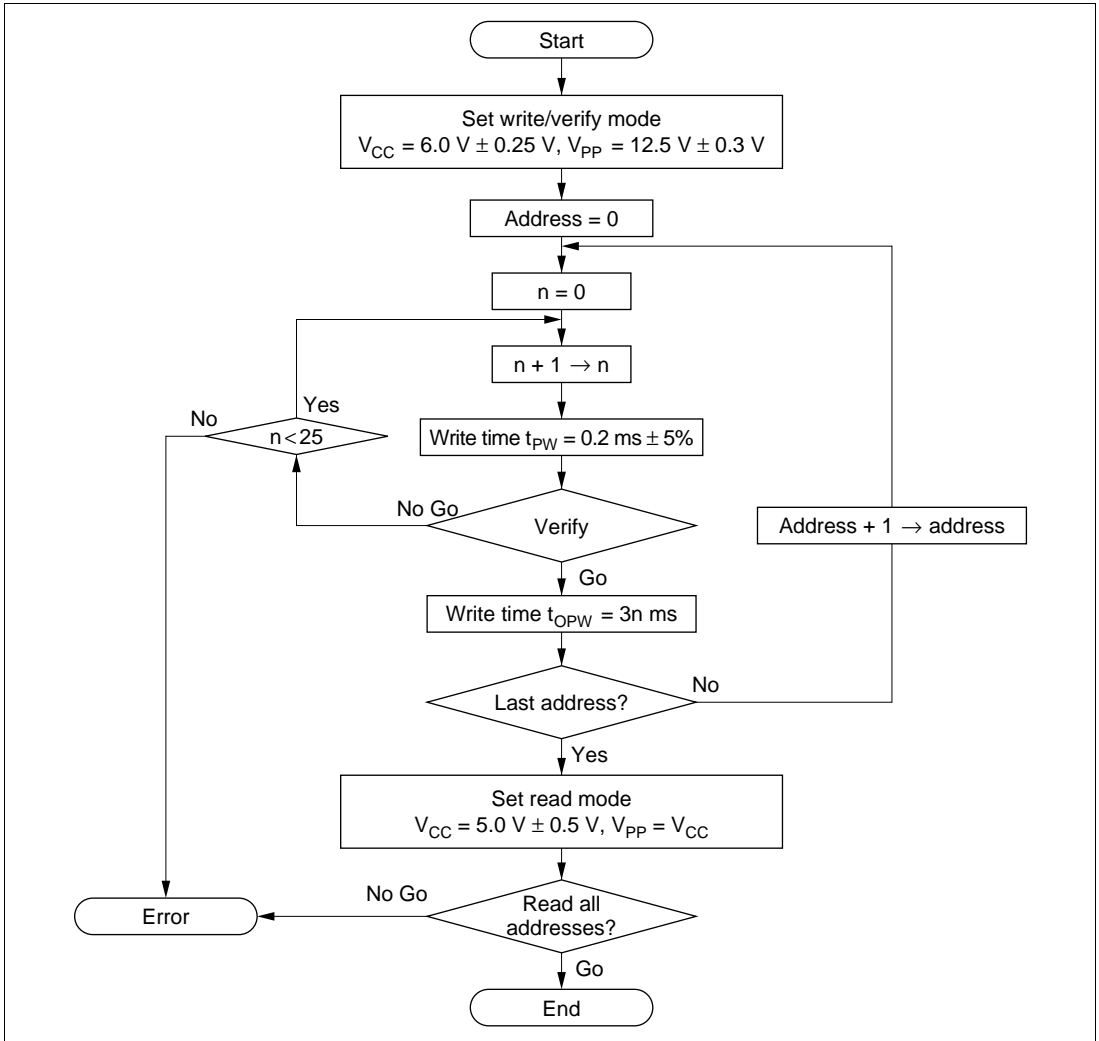

Figure 6.4 High-Speed, High-Reliability Programming Flow Chart
An efficient, high-speed, high-reliability method is available for writing and verifying the PROM data. This method achieves high speed without voltage stress on the device and without lowering the reliability of written data. Data in unused address areas has a value of H'FF. The basic flow of this high-speed, high-reliability programming method is shown in figure 6.4.
- t_{OPW} is defined by the value given in figure 6.4, High-Speed, High-Reliability Programming Flow Chart.